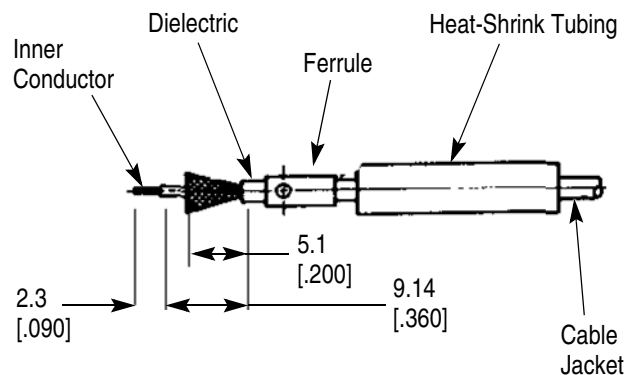

Figure 3
2.1. Preparing the Coaxial Cable End (Figure 3)
- Trim the braid to the length shown in Figure 3.